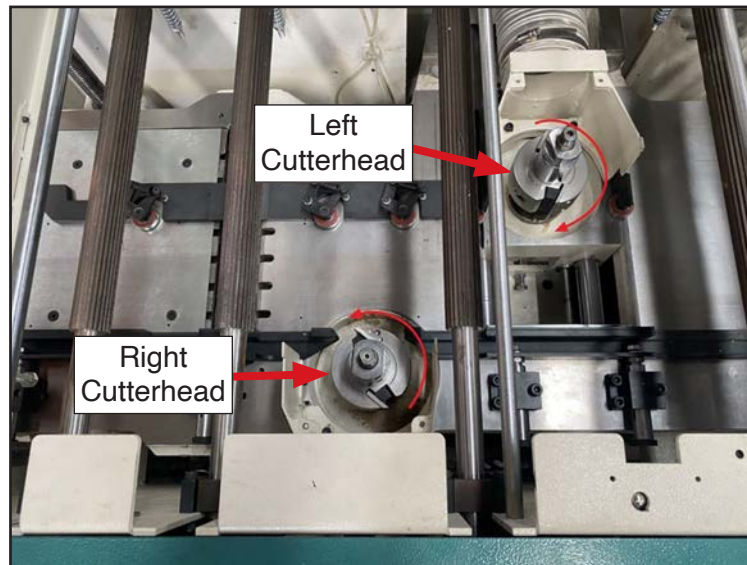

**Figure 17.** Correct cutterhead rotation (shown from right side of machine with top door opened for clarity).
4. Press left and right cutterhead green start buttons to start cutterheads and observe cutterhead rotation from above (see **Figure 17**), then press red stop buttons to stop cutterheads.